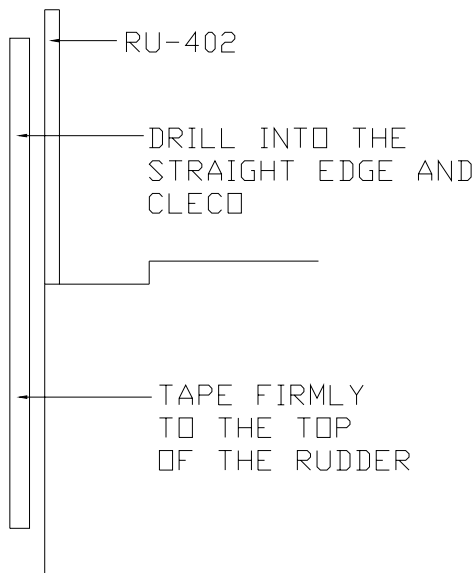

Figure 5.3.1
1) Cleco the top Rudder Tip Rib (RU-402) into place at the top of the Rudder. Keep the Rudder in place with a straight edge. (Use a 1" x 1" piece of wood. You can cleco the Rib into the wood to keep it straight). Figure 5.3.1.